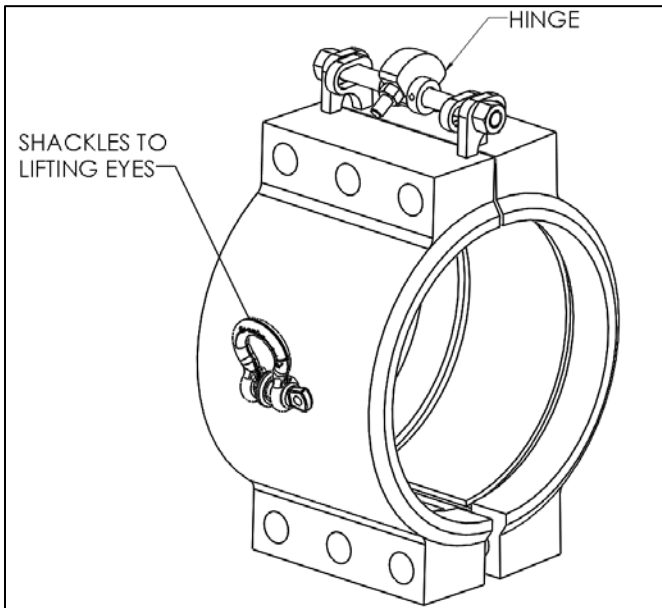
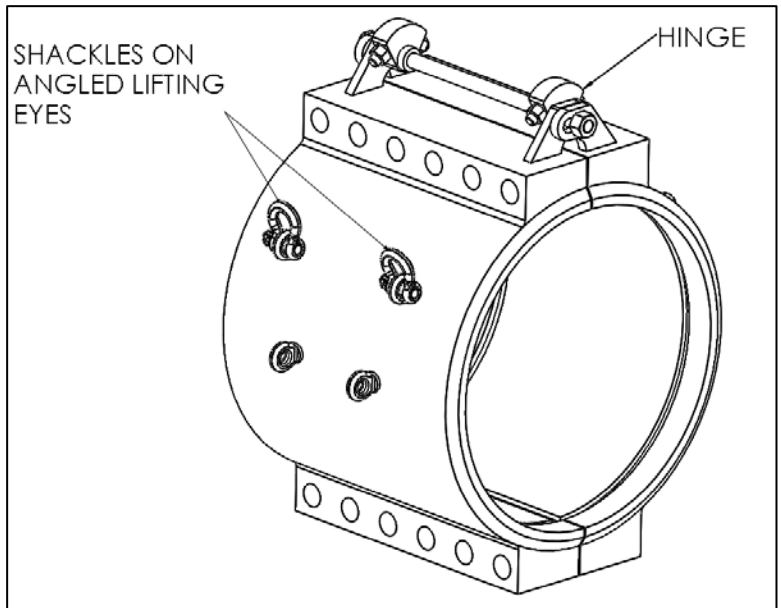

Figure 10
Figure 11
1. Orient the Split+Sleeve and remove all studs and nuts as shown in Figures 10 & 11.
2. Attach shackles to the lifting eyes. Smaller fittings typically only have lifting eyes in the center of the shell as shown in Figure 10. Larger diameter fittings have additional lifting eyes on an angle as shown in Figure 11. For larger diameter fittings, the angled lifting eyes are to be used during installation with hinges.